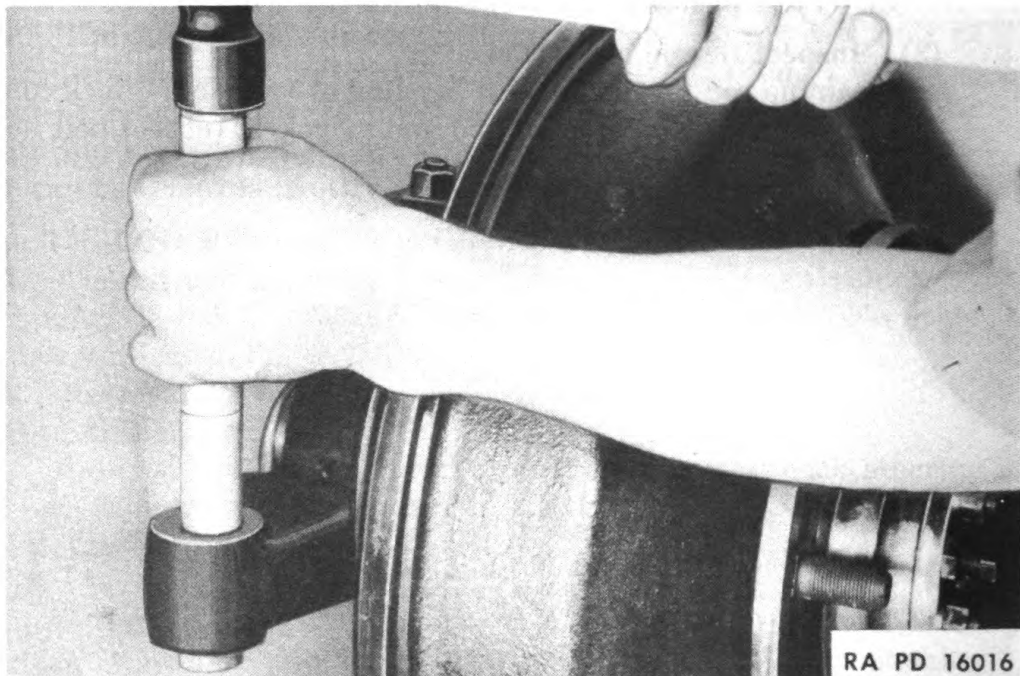

Figure 52—Typical Method of Removing and Installing Tie-Rod Bushing
- (a) Drive old bushing out of knuckle support with special driver KMJ-1665 as shown in Fig. 52.
- (3) Inspect tie-rod and yokes**